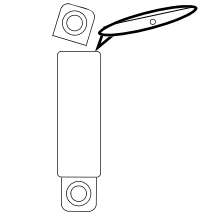

Fig. 3. Remove mounting plate tabs with utility knife only.
- Install transmitter mounting plate and magnet.** Use #6 flat-head screws or double-sided tape (supplied) to secure. If using internal magnetic reed switch, observe reed switch alignment marks on both the transmitter cover and magnet housing. Mount magnet within 5/8" of the transmitter front cover. If only the internal reed switch is to be used, skip to Step 6. If mounting the magnet with the double-sided tape, mounting plate tabs may be removed—**use a utility knife only—do not bend** (see Fig. 3).